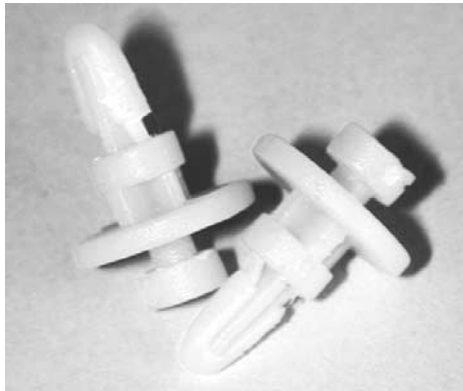

Figure 15-22. The type of plastic standoffs used to mount a motherboard in the case
- ▼ **Plastic standoffs** These small plastic parts are also called “spacers,” “risers,” and “sliders.” The standoffs used inside the system case to mount the motherboard are typically small plastic legs (see Figure 15-22) that snap into the mounting holes on the motherboard and then slide into the mounting slots on the case. In addition to anchoring the motherboard in place, the standoffs keep the motherboard from contacting the system case and grounding or shorting itself.